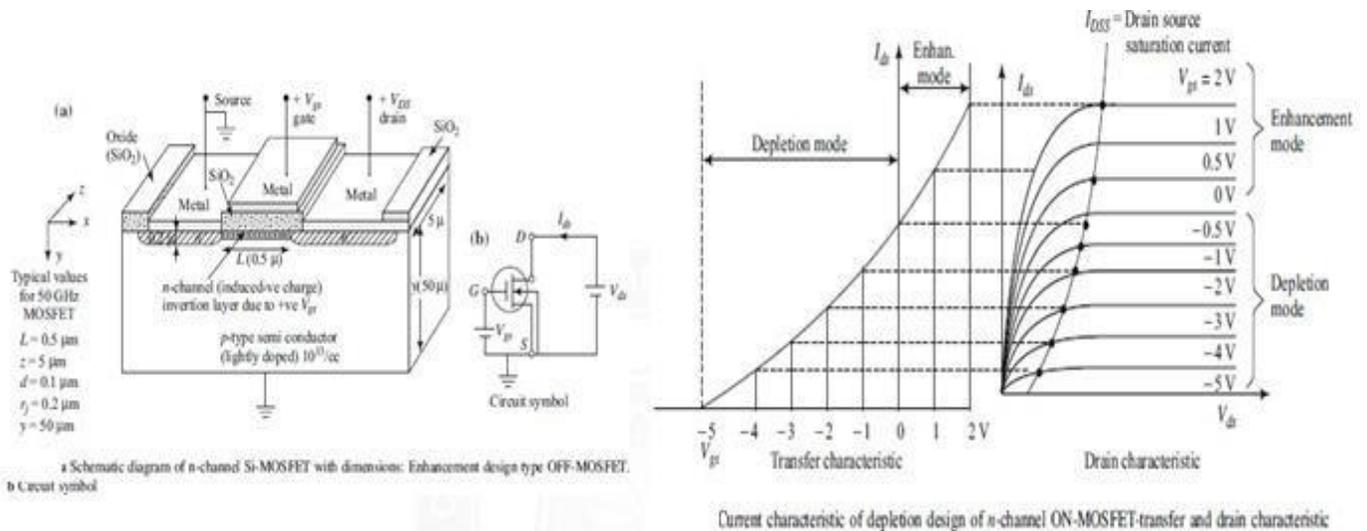

Fig: 1 Power MOSFET and Drain Characteristics
- **R_D is the equivalent of R_S for the drain.** It represents the resistance of the transistor substrate (the cross section in figure 1 is not at scale, the bottom N^+ layer is actually the thickest) and of the package connections.
As the source metallization overlaps the P-wells (see figure 1), the drain and source terminals are separated by a P-N junction. Therefore, C_{DS} is the junction capacitance. This is a non-linear capacitance, and its value can be calculated using the same equation as for C_{GDj} . So far we have discussed the n-channel MOSFET only, but all these are true for pchannelMOSFET also, with n-replaced by p layout and packaging materials. The packaging often limits the maximum junction temperature, due to the molding compound and (where used) epoxy characteristics.